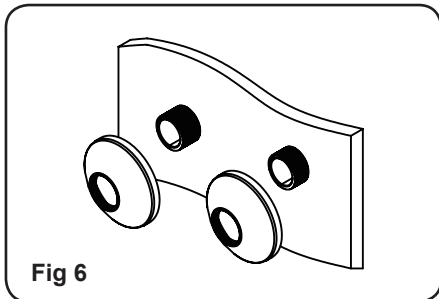
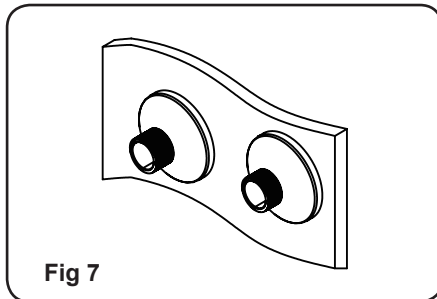

Fig 6
Fig 7
11. Cover recess hole so it is flush with the wall surface (access may be needed for future use). Screw the Flange (1) to the inlet of the Elbow with Mounting Plate(2), hand tight do not over tighten. See Fig 6 & Fig 7.
12. Align the inlet of the Elbow with Mounting Plate(2) with Valve Body inlets From the front. Screw the nut of the Valve Body to the inlet of the Elbow with Mounting Plate(2), ensuring that the Sealing Washer is fitted into the Valve Body nut.